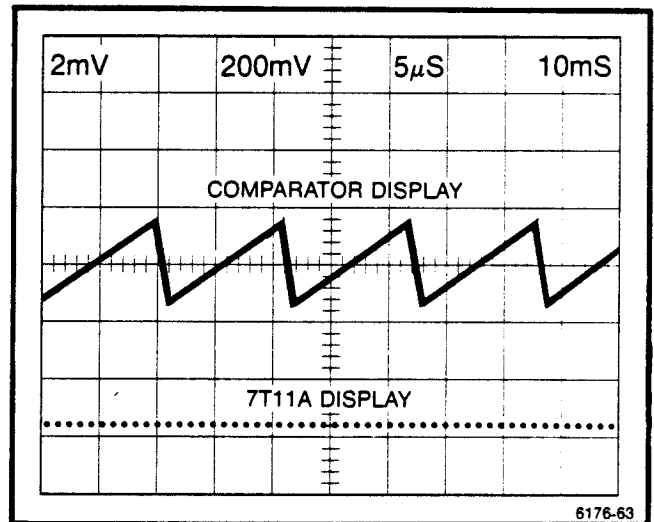

Figure 5-8. Typical display for adjusting Slewing Ramp (A2R310) and Servo Zero (A1R588).
- d. **ADJUST**—Slewing Ramp adjustment R310 (on Timing board assembly A2) for minimum ac and Servo Zero adjustment R588 (on Logic board assembly A1) for 0 V dc on the Comparator oscilloscope display (center the ac waveform component on the display graticule; see Figure 5-8).